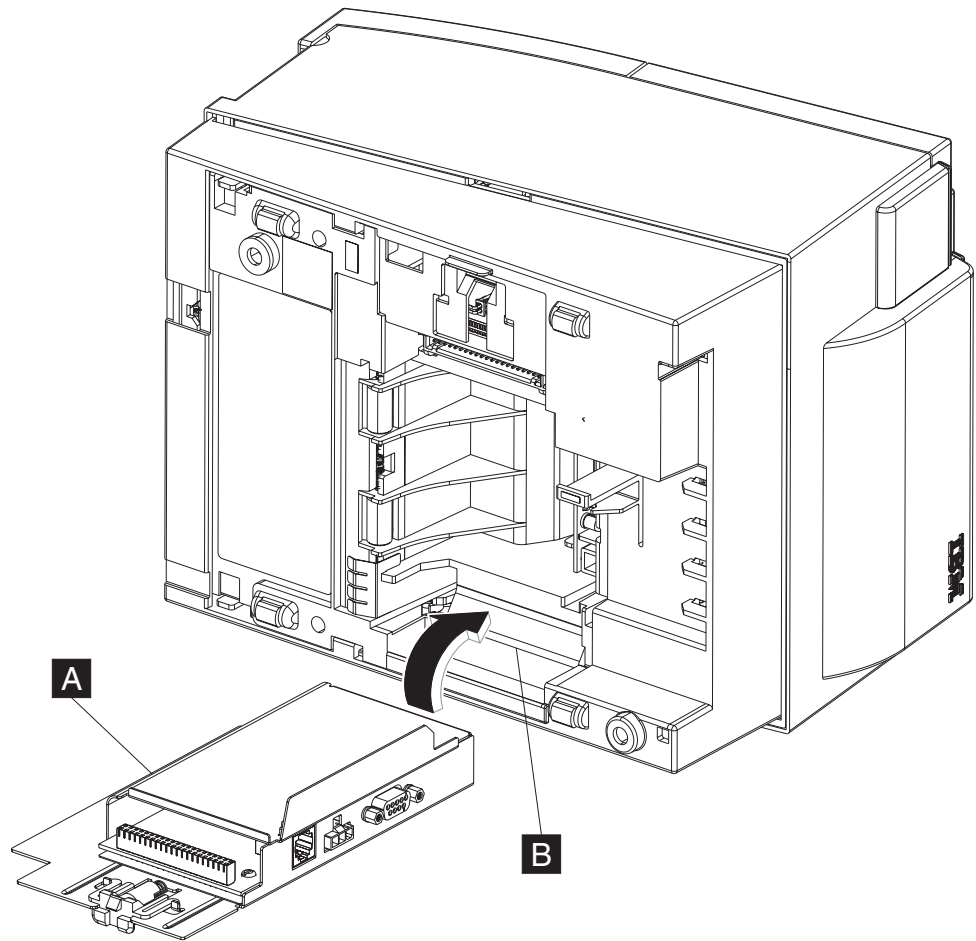

Figure 28. Replacing the interface card
2. Place the printer unit on one side, as shown in Figure 28.